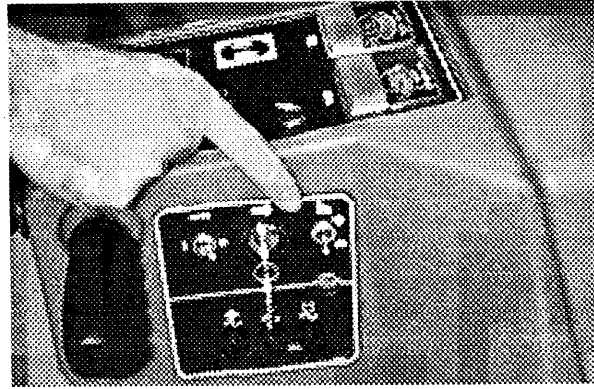

FIG. 12.
8. Select desired scrubbing speed mode by choosing slow or fast speed. Switch is located on the side of the console. (Figure 12)